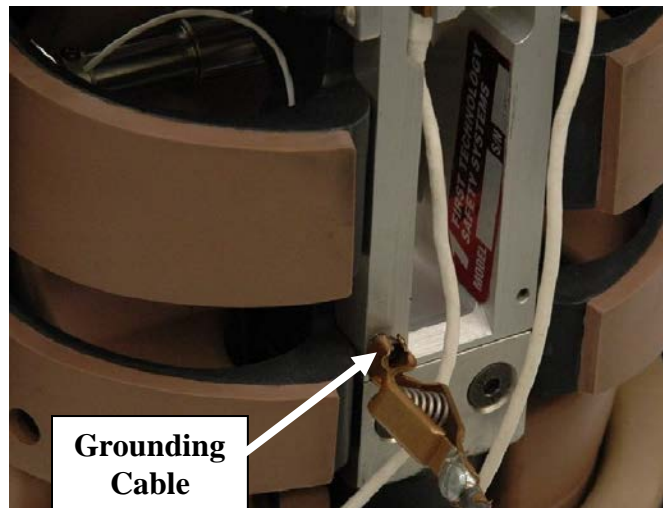

Figure 59. Grounding the dummy
- Unfasten the upper portion of the suit jacket and electrically ground the dummy using a cable between a metal component of the dummy and the ground such as that shown in Figure 59.